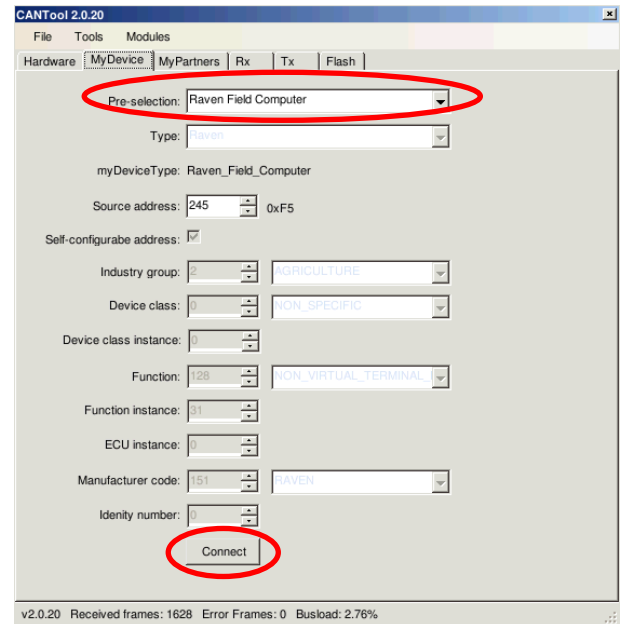

Figure 6 CANTool – MyDevice.
6. Select *Raven Field Computer* behind *Pre-selection* (Figure 6).